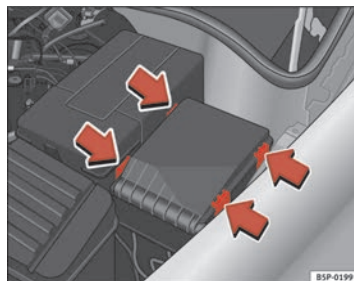

Fig. 183 Fuse box cover in engine compartment
- Prise off the fuse cover in the engine compartment by pressing the tabs towards the centre of the cover ⇒ page 261, fig. 183.